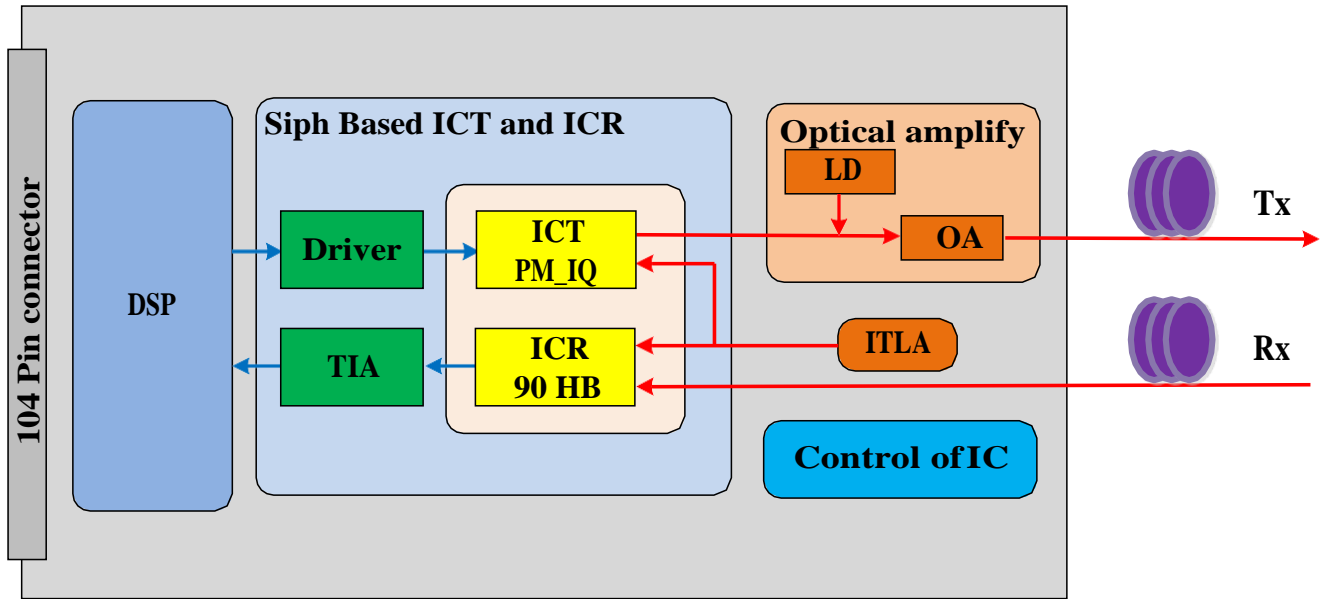

Figure 1: Functional diagram of Module
The application field of the module is wide from short haul (ZR) to Metro (MR) and Data Center Interconnection (DCI). As shown in Figure 1, it is comprised of high-data lanes, a single 3.3V power supply, an MDIO interface for module control and status report, and dedicated alarm and control pins (not shown on the figure 1).